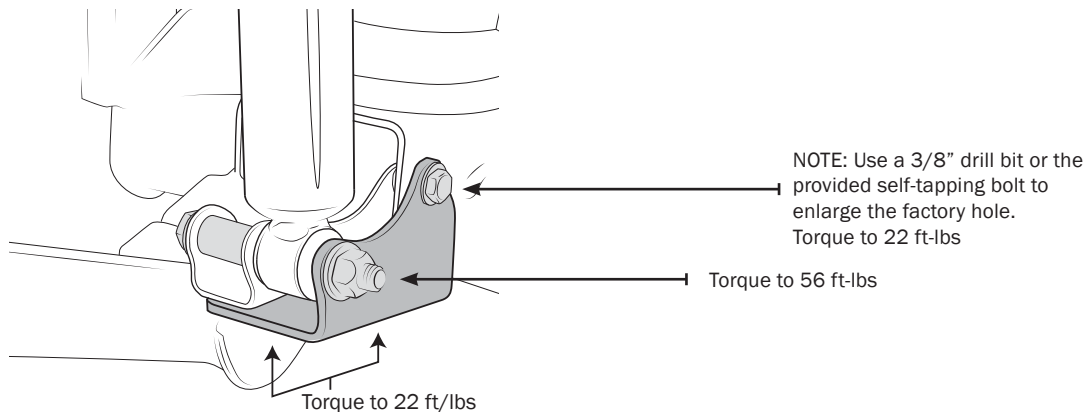

Figure 25
- A. Install Shock Doubler brackets on both sides as shown using supplied hardware (Fig. 25).
- B. Install shocks in Shock Doubler brackets as shown using supplied hardware (Fig. 25).